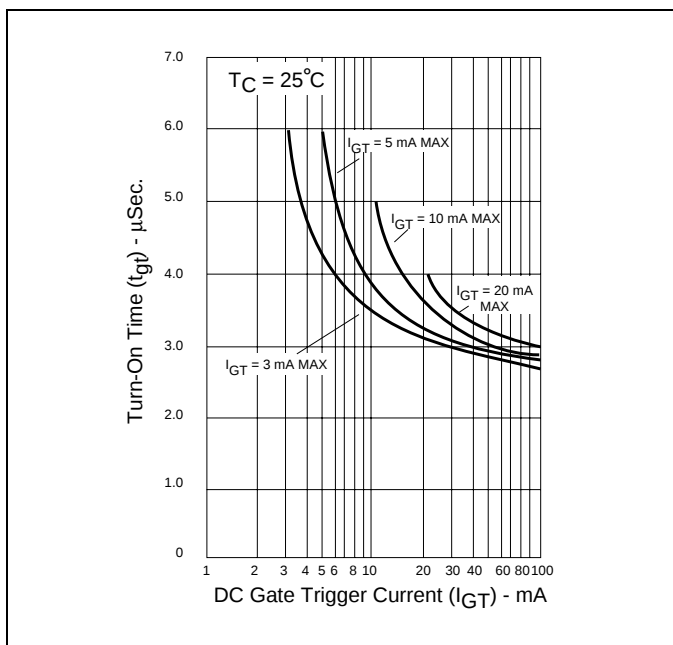

Figure 1.8 Turn-On Time vs Gate Trigger Current (Typical)
- (9) See Figure 1.8 for t_{gt} vs I_{GT} .